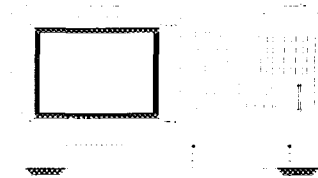

Figure 4-9. Device Connections for Measuring Electrical Length
- 1 Connect your test device as shown in Figure 4-9.